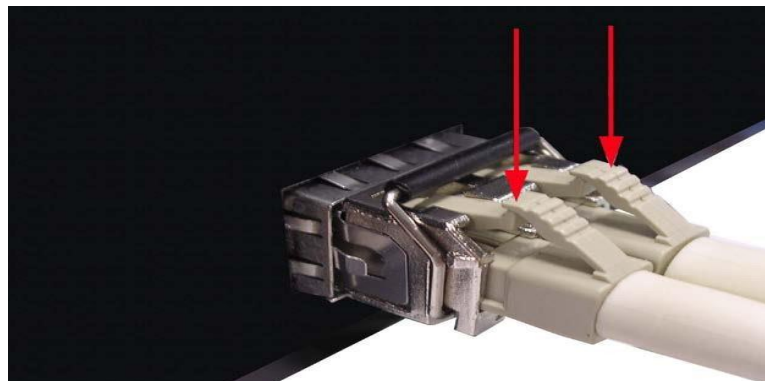

Figure 2.12: Remove LC Connector
Step 1 Press the upper side of the LC connector from the transceiver and pull it out to release as shown below in Figure 2.12